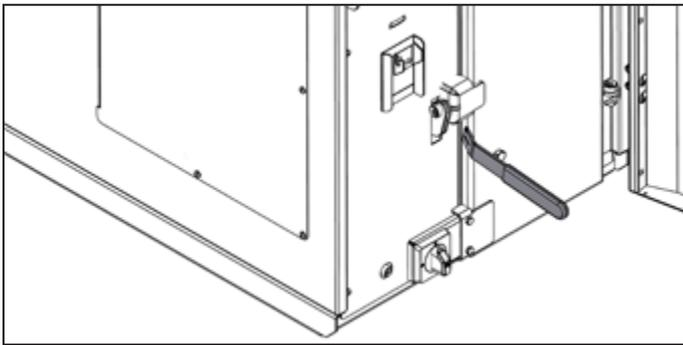

Figure 13: Multi-purpose tool and door catch
- Fit the multi-purpose tool (provided with the boiler) into slot in the combustion door catch (on the left side of the door). Refer to Figure 13.